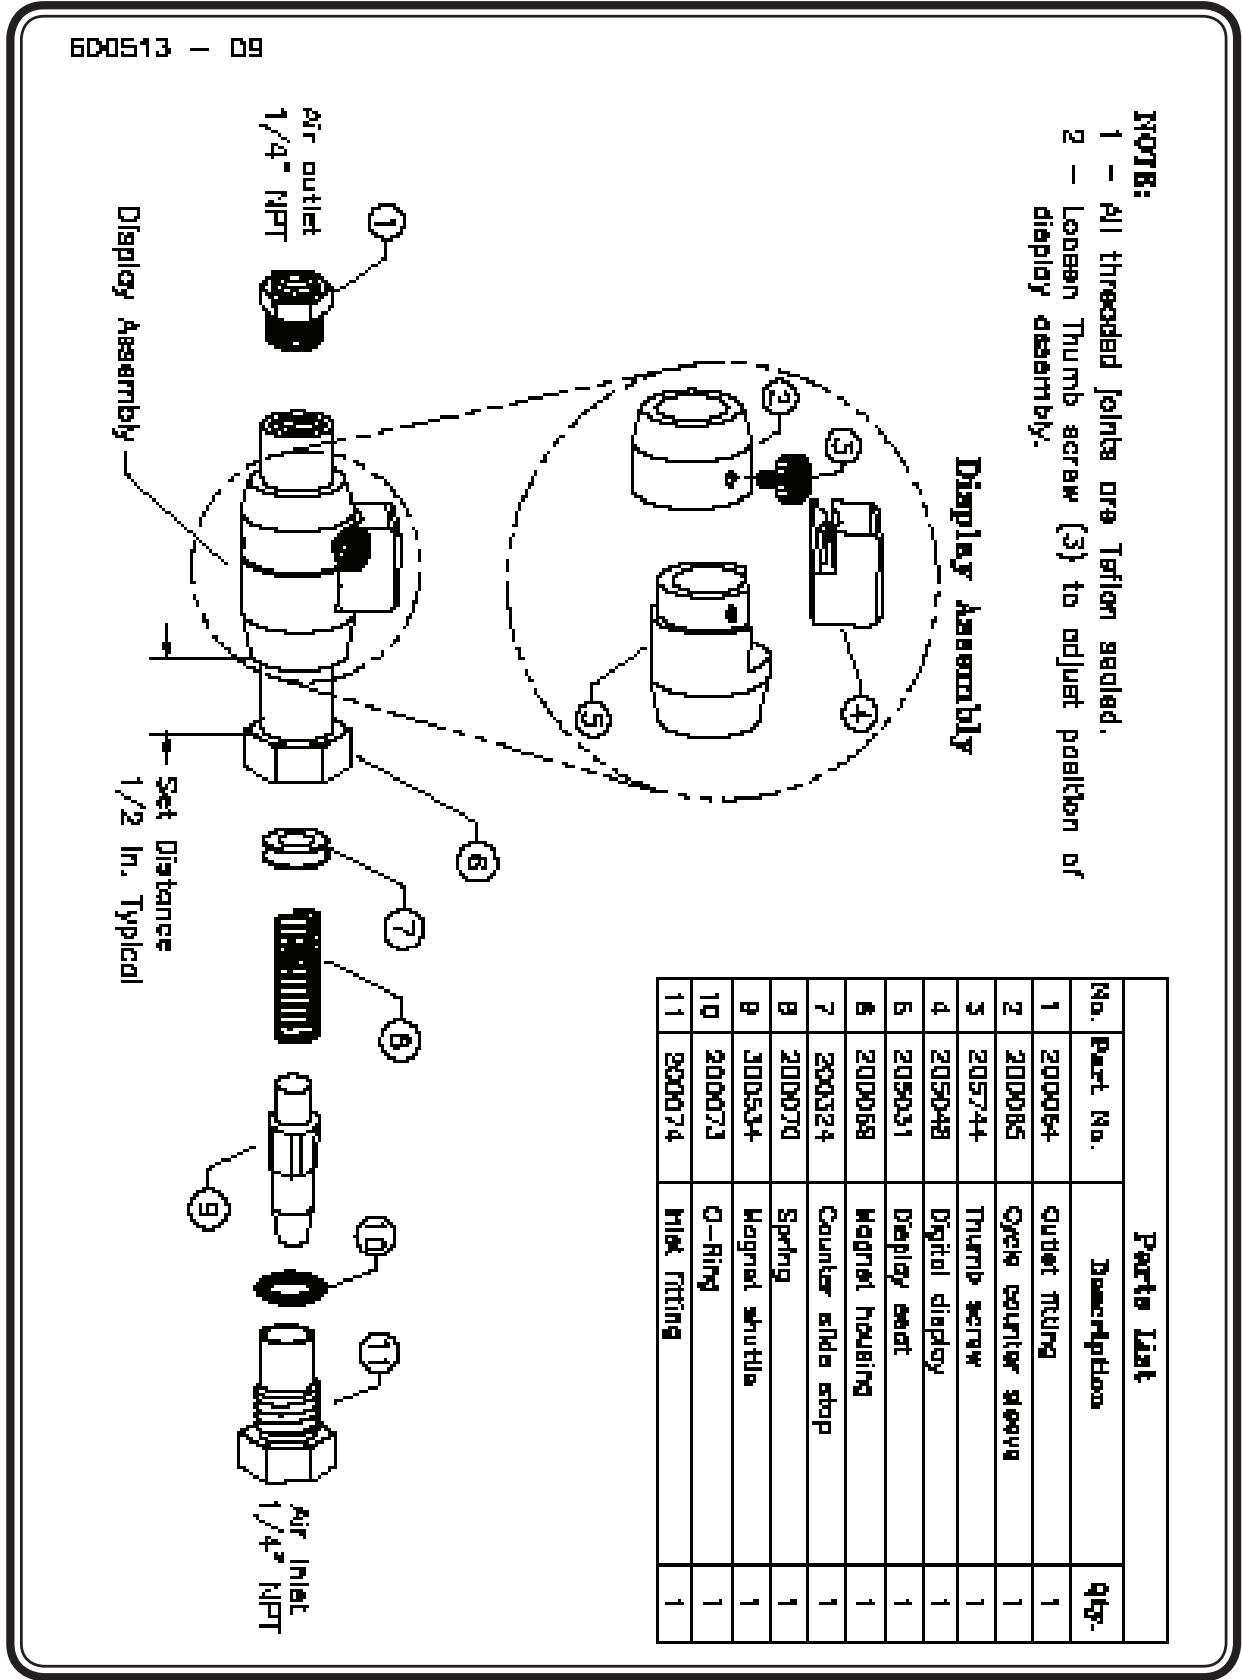

Figure 38 - Pump Cycle Counter Exploded View
- STEP 1 -** Loosen, but do not remove, the thumb screw **(item #3)** that locks the Display Assembly. **(See Figure 38)**
Sometimes the PCC does not count due to either the magnet shuttle or the spring hanging up inside the magnet housing. The counter components can be cleaned by *gently* washing the unit in warm water. A soft brush may be used to remove debris. To clean the inside, follow these instructions: (See Figure 38)
As a precaution, mark and/or measure with a pencil, the set distance (See Figure 38) so that it can be reset in the same position should movement occur. Do not loosen the thumb screw (item #3) since movement of the Display Assembly is unnecessary for cleaning.
Assembly of the Digital Display (Figure 38)
- STEP 1 -** Seat the digital display (**item #4**) on the flat of the display seat (**item #5**). (See Figure 38)